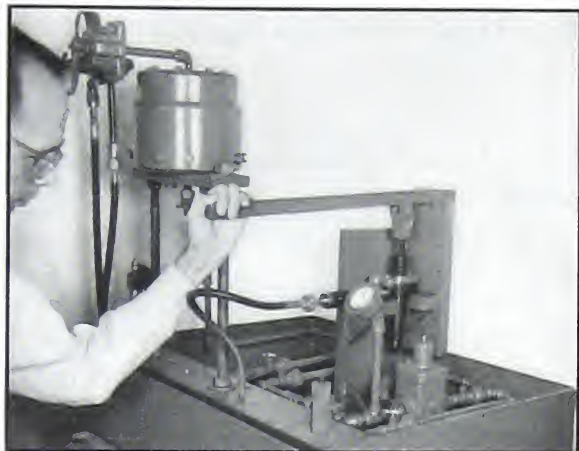

Fig. 6-27. Checking spray pattern
5. Assemble an injector and inlet connection to the fuel connection provided for spray pattern test. The spray at 2000 psi should be uniform in pattern and volume. Fig. 6-27.